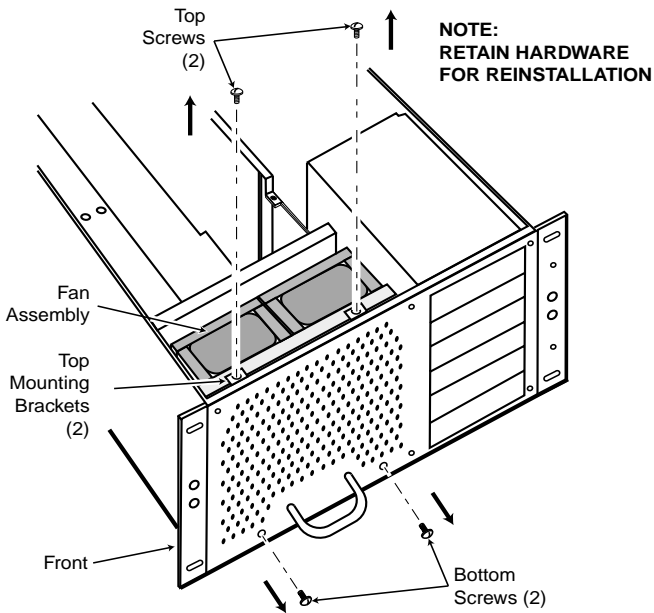

Figure 5-21. Removal of Securing Hardware
- [] 1. Refer to **Figure 5-21**. Remove the two (2) bottom screws securing the fan assembly to the front of the Duet chassis.
- [] 2. Remove the two (2) top screws from the top mounting brackets.